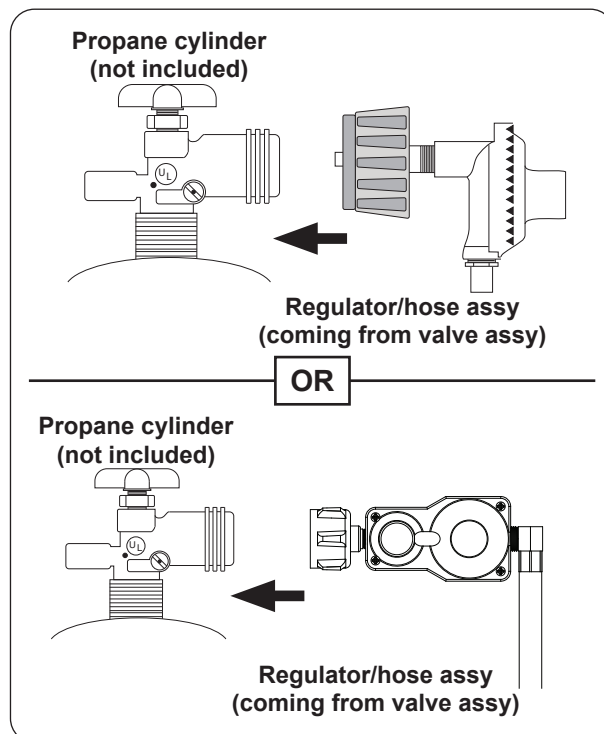

Fig. 31-2 Connecting hose assy to L.P. cylinder
2. Attach the regulator end of the hose assembly to a propane cylinder (not included) and tighten (see Fig. 31-2).